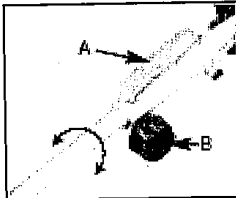

Fig. 8A
1. Loosen screw (B) counterclockwise (Fig. 8A).
2. Push latch (A) down and rotate the handle to the required position (see Fig. 8A). Holes are preset at 90 degrees left, 90 degrees right, and 180 degrees.
4. Tighten screw (B) clockwise.